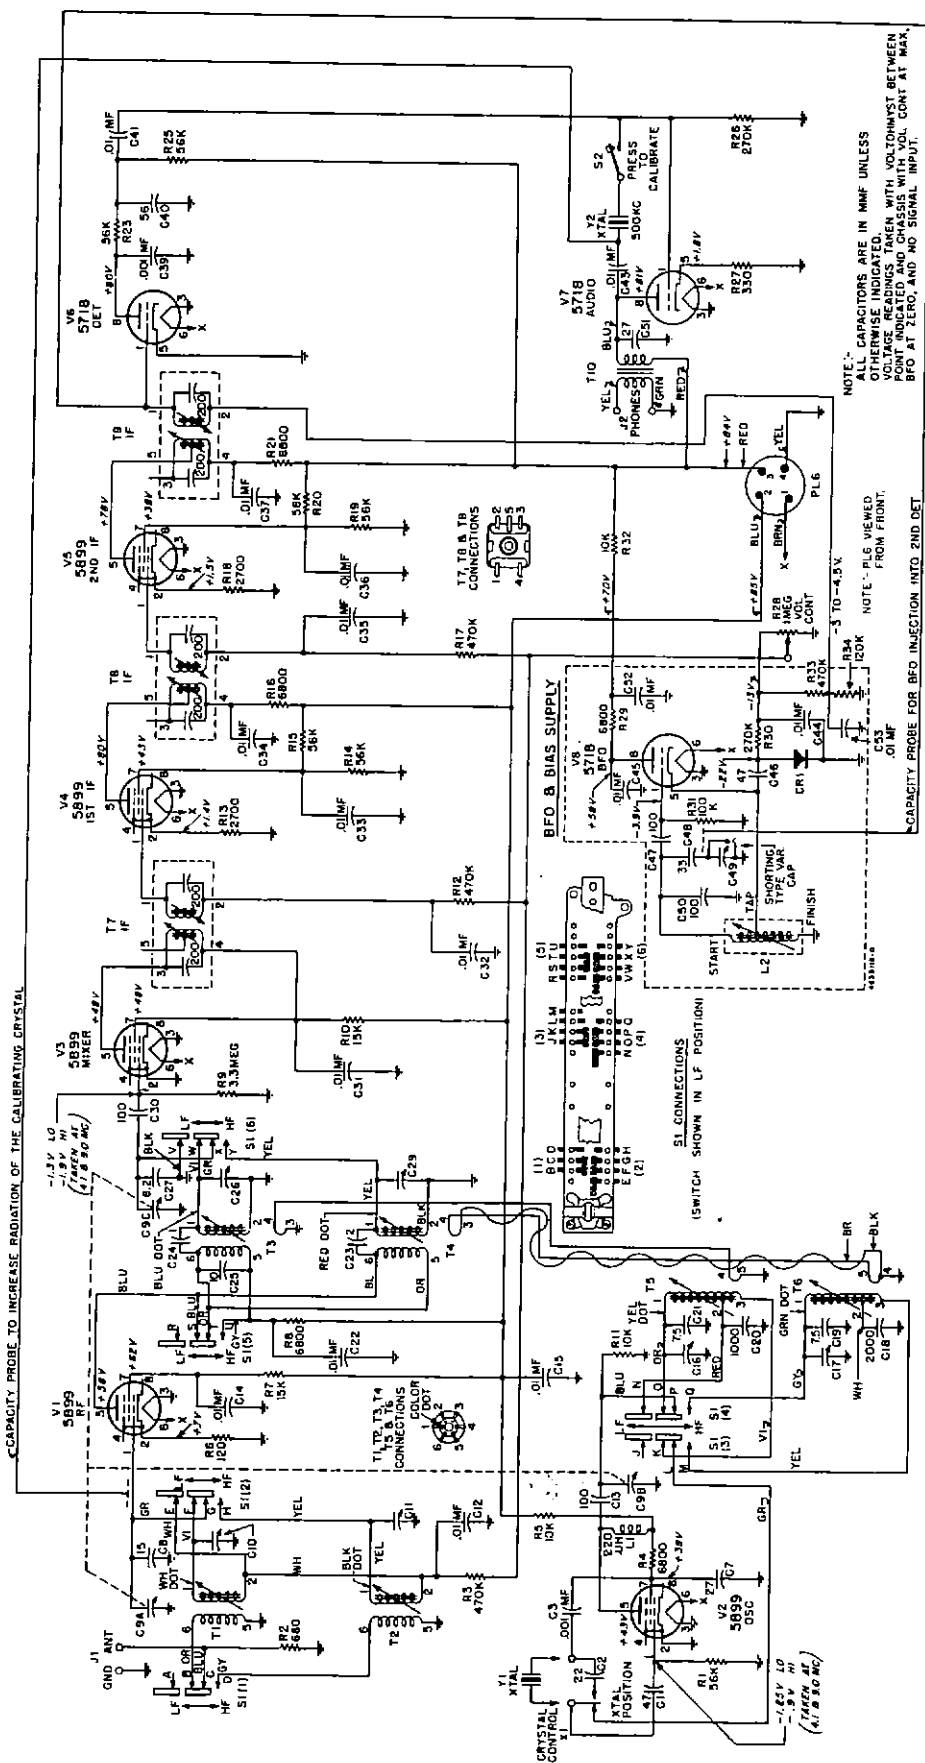

Figure 12. Receiver RR-6 schematic diagram.
23. CIRCUIT DESCRIPTION—(See Schematic, Figure 12)